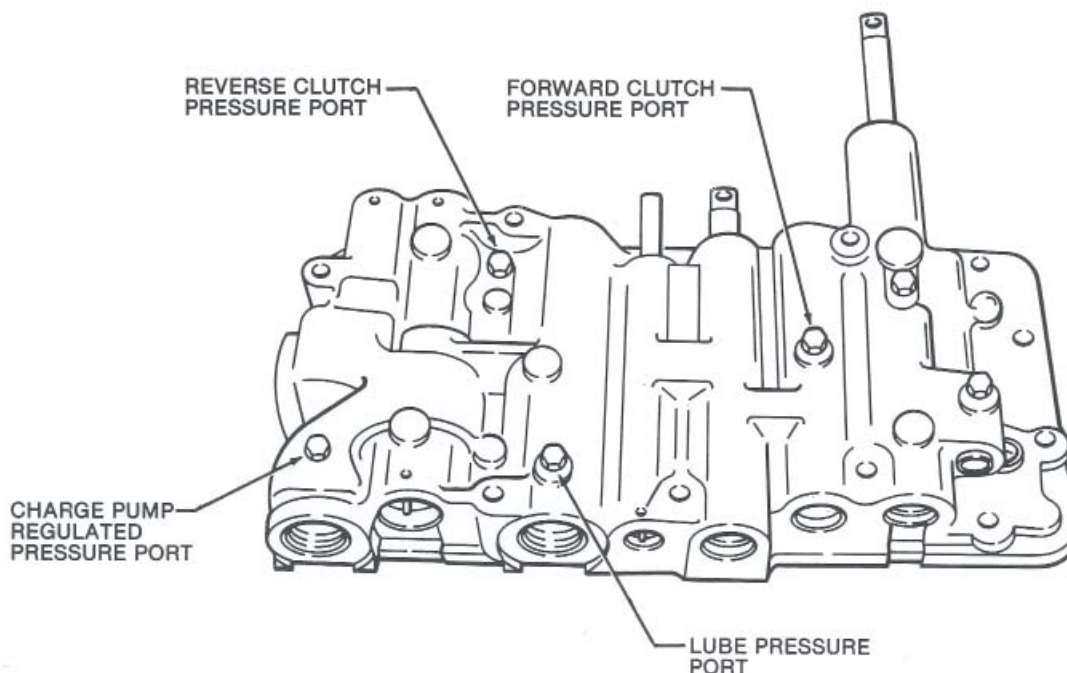

Figure 1 8000 Series Transmission Check Ports
- a. Refer to Figure 1 for locations of directional clutch pressure check ports.